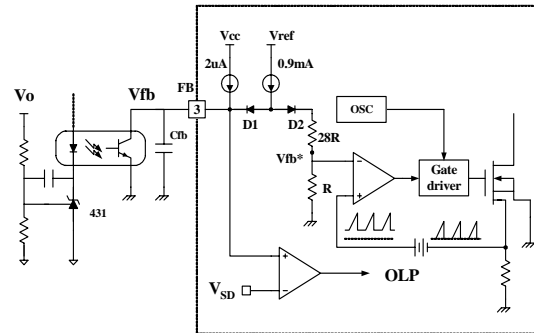

Figure 5. Pulse width modulation (PWM) circuit
2. Feedback Control : The FSDx321 employs current mode control, shown in figure 5. An opto-coupler (such as the H11A817A) and shunt regulator (such as the KA431) are typically used to implement the feedback network. Comparing the feedback voltage with the voltage across the Rsense resistor plus an offset voltage makes it possible to control the switching duty cycle. When the reference pin voltage of the KA431 exceeds the internal reference voltage of 2.5V, the H11A817A LED current increases, thus pulling down the feedback voltage and reducing the duty cycle. This event typically happens when the input voltage is increased or the output load is decreased.